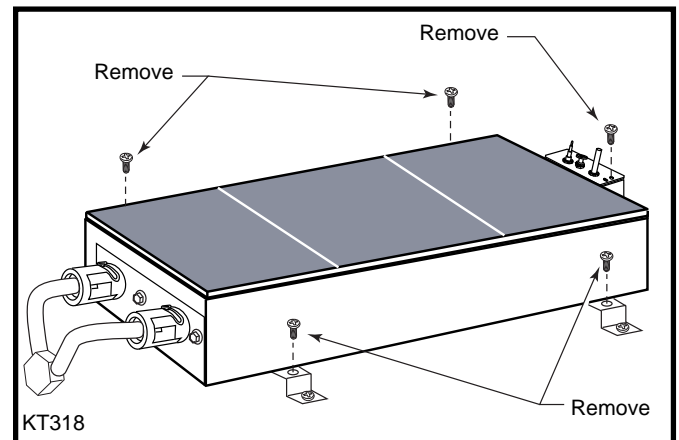

Fig. 2 Remove screws holding burner and pilot bracket.
4. Using a Phillips screwdriver, remove the four (4) screws securing the burner to the burner supports. (Fig. 2)
5. Remove the screw securing the pilot bracket to the burner pan. (Fig. 2)